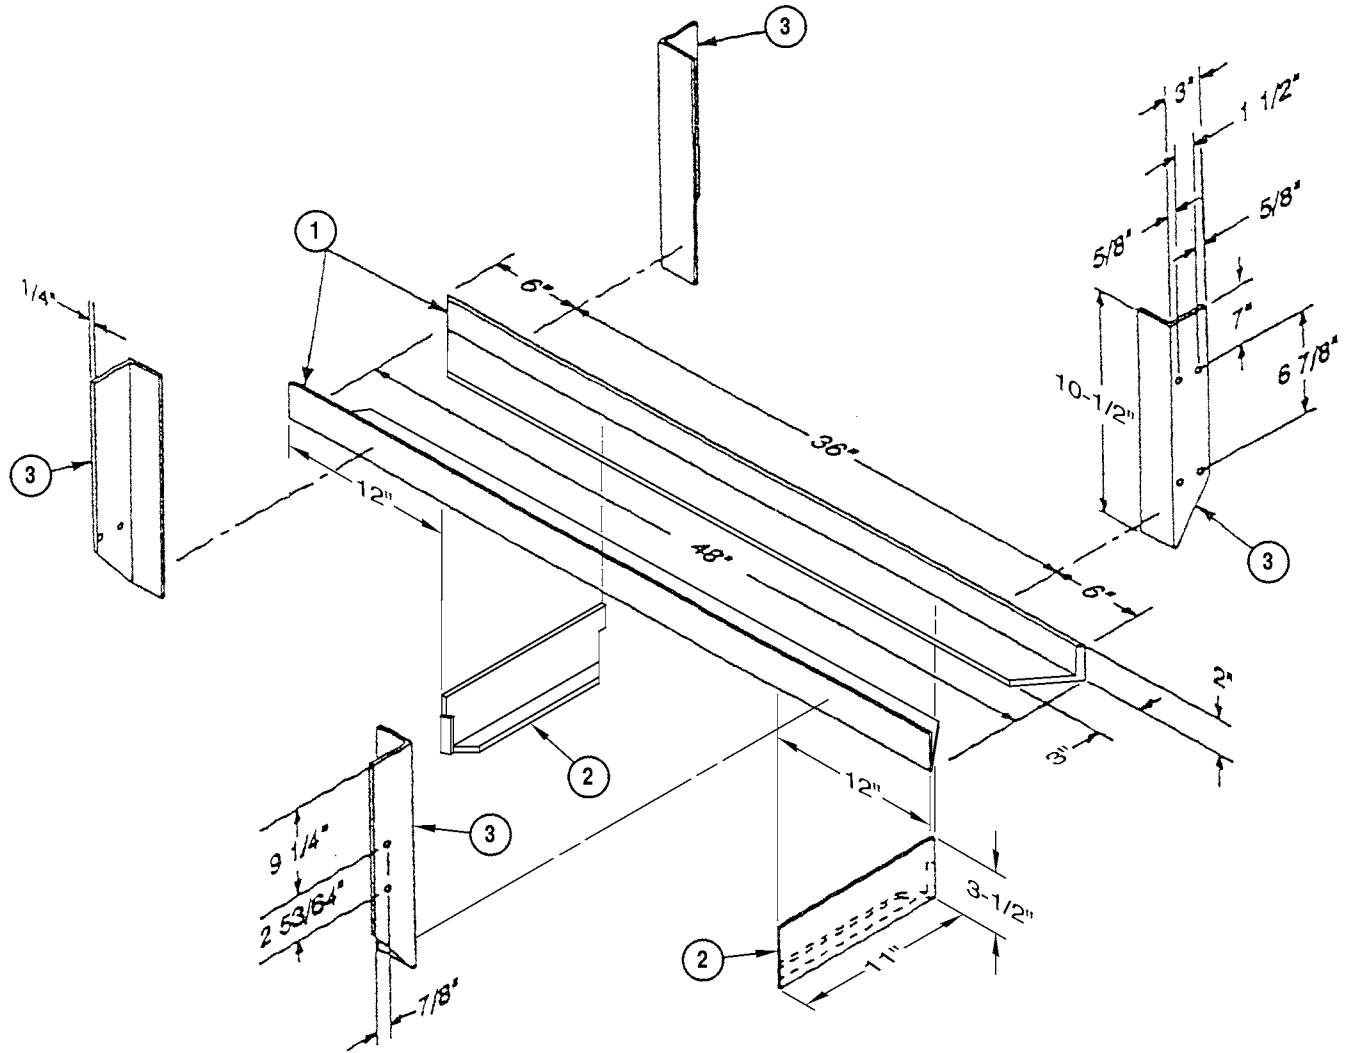

Figure 2-11. Battery Box Fabrication
1. Cut two steel angles (1) final length of 48 inches with 45° angle on each end. See Figure 2-11.
2. Cut two steel angles (2) final length of 11-1/4 inches with 45° angle on each end. See Figure 2-11.
3. Weld two steel angles (1) and two steel angles (2) together. See Figure 2-11.
4. On the 3-inch side, scribe a line 7 inches down from the top of steel angle (3) and another 6-7/8 inches from the 7-inch line.
5. Scribe two lines 5/8 inch on the 3-inch side from each side of steel angle (3).
6. Drill four 9/32-inch holes where the scribed lines intersect, to mount the STE/ICE shunt. See Figure 2-11.
7. Scribe a line 9-1/4 inches down from the top of steel angle (3) and another 2-53/64 inches down from 9-1/4 inch line. See Figure 2-11.
8. Scribe a line 7/8 inch from edge of steel angle (3). See Figure 2-11.
9. Drill two 7/16-inch holes where the scribed lines intersect, to mount bus bar. See Figure 2-11.
10. Weld four steel angles (3) 12 inches from ends of two steel angles (1) on center tubing. See Figure 2-11.
11. Position and weld four steel angles (3) on the rear cross horizontal tubing, and the other on rear perpendicular tubing. See Figure 2-11.